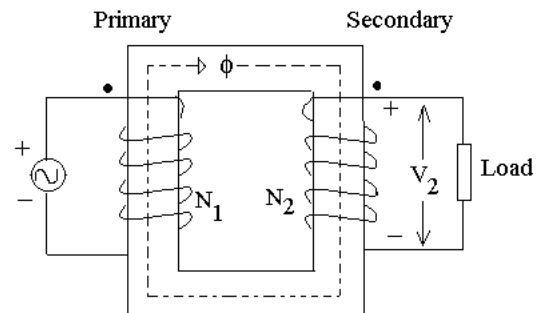

Fig. 1
Q.52 The polarity test is not necessary for the single-phase transformer shown in Fig. 1 so as to correctly determine _____ of the transformer.
- (A) shunt branch parameters.